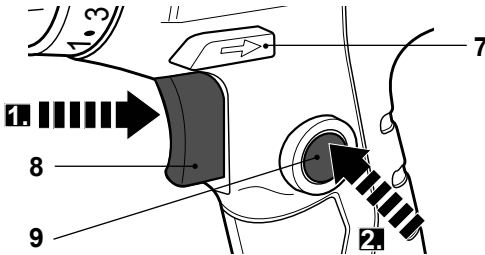

Fig. 10
1. Switch the product on by pressing the on/off switch (8) and hold it in position (Fig. 10, step 1).
2. Press the lock-on button (9) and hold it in position to lock the on/off switch (8) (Fig. 10, step 2).
3. Release the lock-on button (9) and on/off switch (8). The on/off switch is now locked on for continuous use.
4. Depress and release the on/off switch (8) to switch the product off.